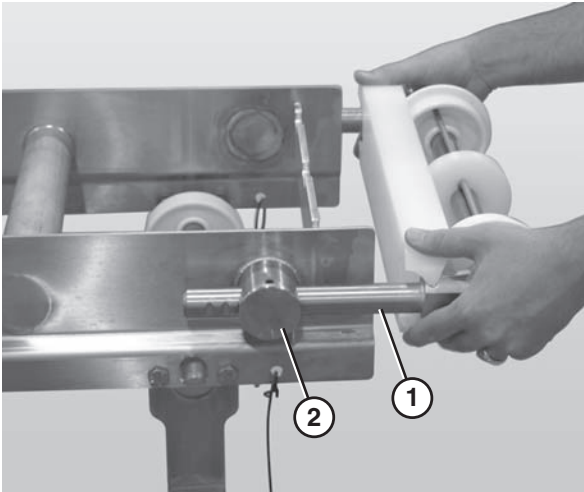

Figure 76
- Slide the idler tail assembly (**Figure 76, item 1**) out of the take up blocks (**Figure 76, item 2**).